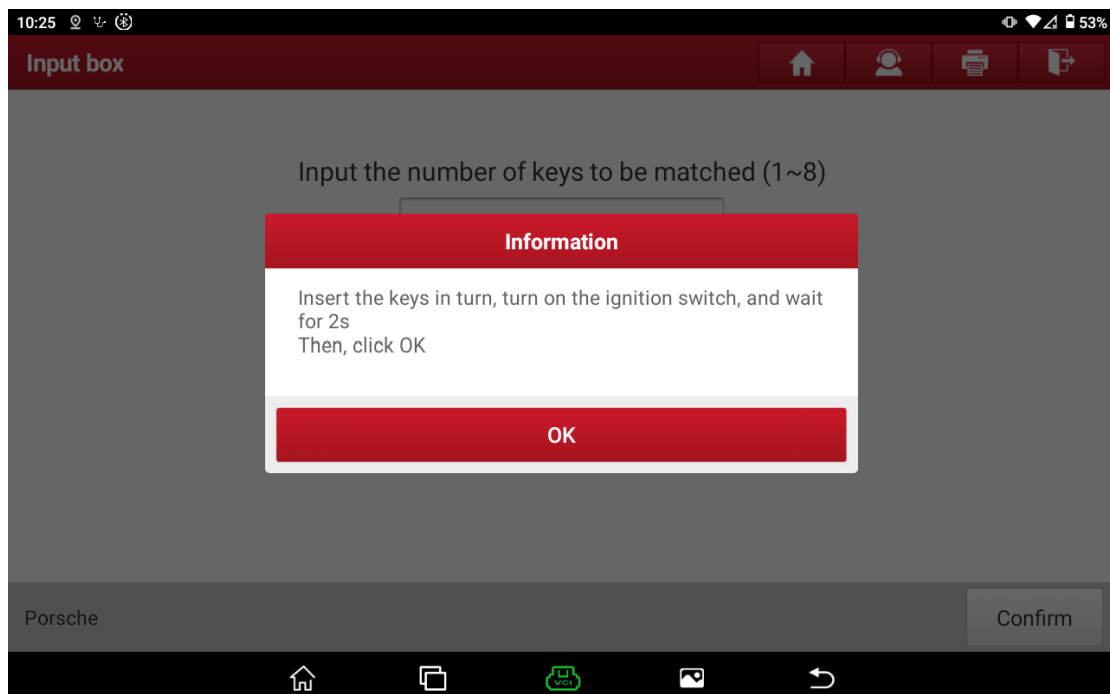

Figure 11 Prompt
9. As shown in Figure 11, insert each key in turn, turn on the ignition switch, and wait for about 2 seconds. If the direction lock beeps, it indicates that the key is successfully matched. Then, insert the next key.